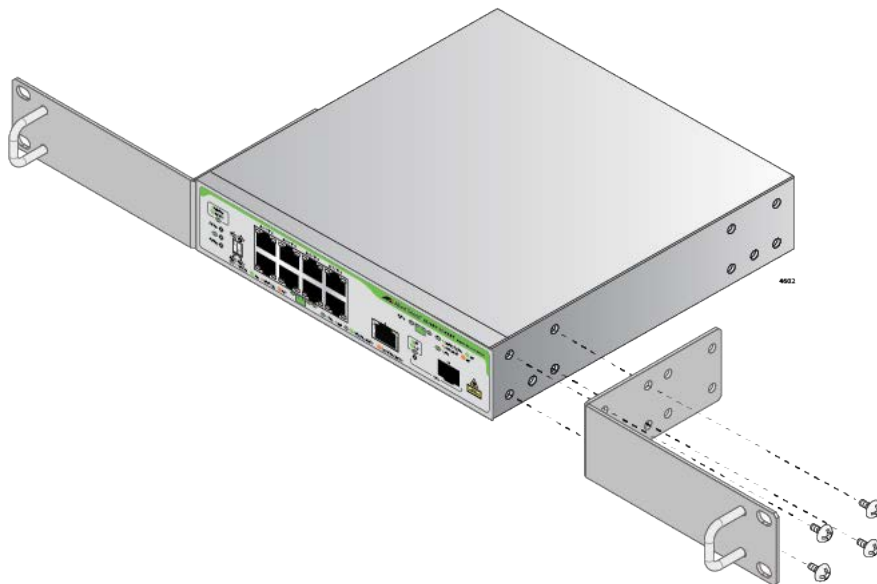

Figure 37. Installing the Brackets on the Switch
4. Attach the two rack mount brackets to the sides of the switch with the eight bracket screws as shown in Figure 37.